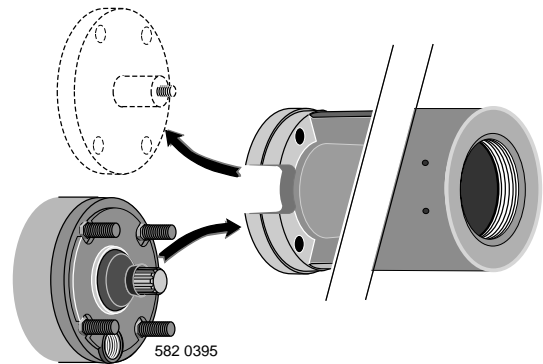

Figure 6: Remove fixture and mount pump on motor for thrust bearing setting.
13. Unbolt and remove fixture from bottom of pump (unscrew off of shaft). Install pump on motor or motor-height fixture for thrust bearing adjustment (Figure 6).